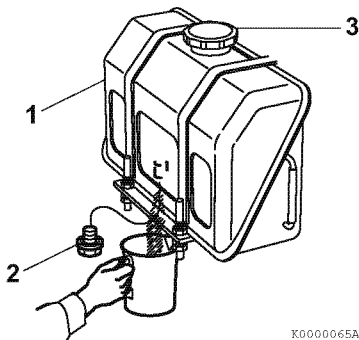

Figure 5-6
1. Position an approved container under the diesel fuel tank (1, **Figure 5-6**) to collect the contaminants.
2. Remove the fuel cap (3, **Figure 5-6**).
3. Remove the drain plug (2, **Figure 5-6**) of the fuel tank to drain the contaminants (water, dirt, etc.) from the bottom of the tank.